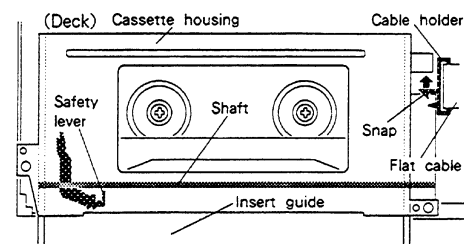

Fig. 2-1-1
2-1-1 Removal (Refer to Fig. 2-1-1~2-1-2.)
- C. Unfasten the snap on the cable holder and remove the cable holder from the cassette housing as shown in Fig. 2-1-1.
2-1-2 Installation (Refer to Fig. 2-1-1~2-1-3.)
- A. Slowly lower the cassette housing onto the main plate of the deck so that the safety lever enters between the insert guide and the shaft as shown in Fig. 2-1-1. Align the two positioning holes (e) and (f) and the two U holes (g) and (h) located on the cassette housing with the matching holes in the deck.